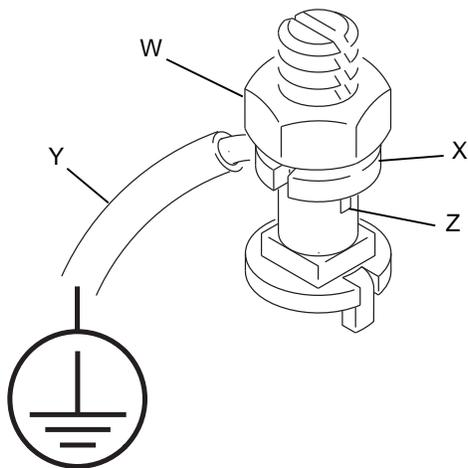

FIG. 1
2. **Pump:** use a ground wire and clamp. See FIG. 1. Loosen the grounding lug locknut (W) and washer (X). Insert one end of a 1.5 mm² (12 ga) minimum ground wire (Y) into the slot in lug (Z) and tighten the locknut securely. Connect the other end of the wire to a true earth ground. Order Part No. 237569 Ground Wire and Clamp.